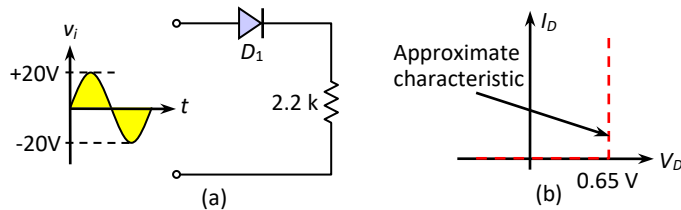

Fig.3-118: Diode circuit for Exercise 34 (a) Diode circuit
34. Using the given I - V characteristics of the diode, determine the current and the voltage across the diode and the resistor as shown in Fig.3-118.